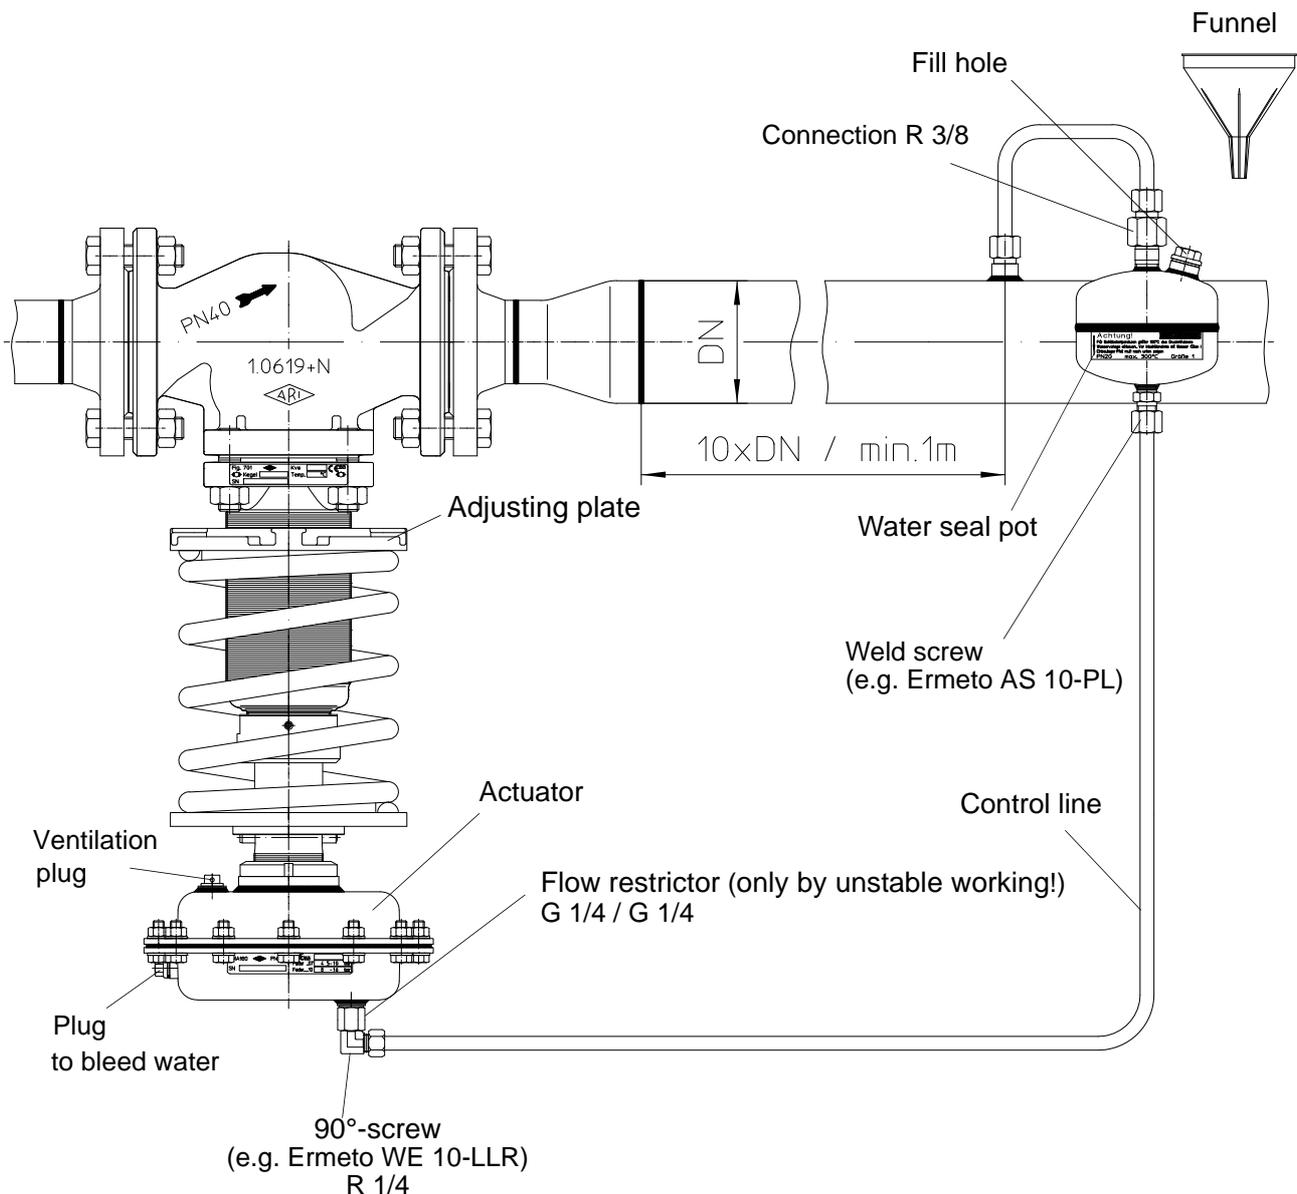

Fig. 3
- The existing water seal pot must be filled complete (steam, with water) until the water runs out of the bleed plug from the actuator (see Fig. 3). can be filled with the help of the supplied funnel.
- The water seal pot is completely filled (by steam with water) and the actuator is bled by the plug (see Fig. 3).